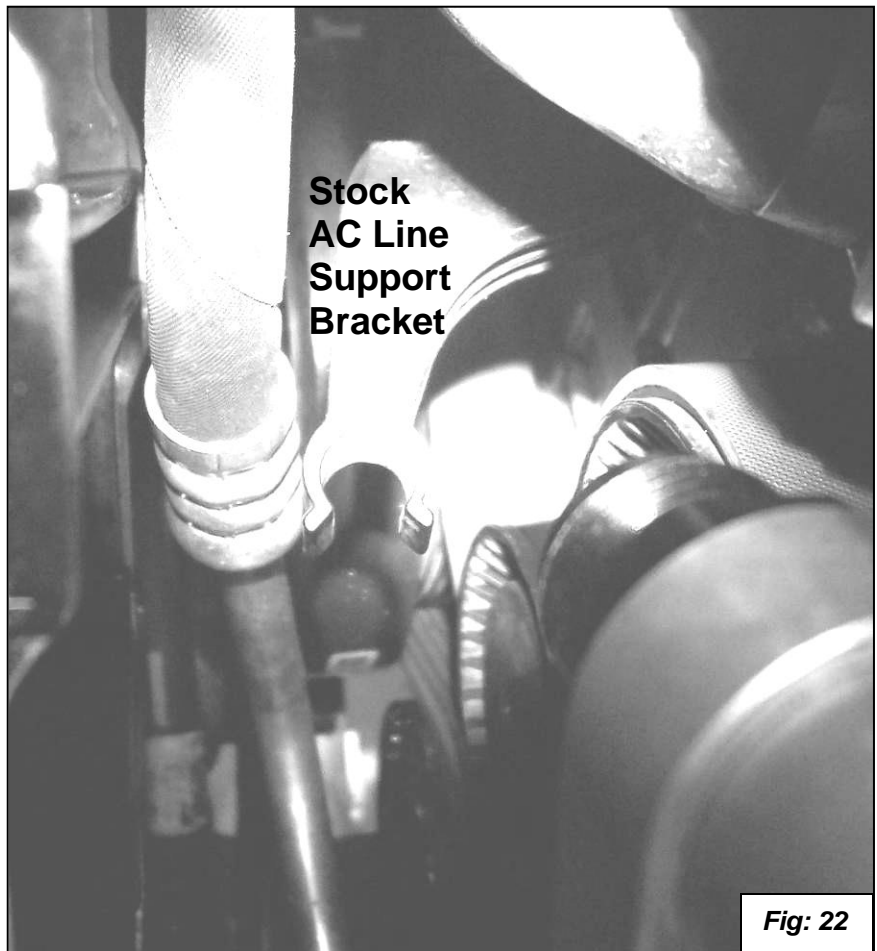

Fig: 22
24. Replace the AC Line Support Bracket. To make room for the new Oil Cooler Hoses you will need to remove the stock plastic AC line support bracket from the front of engine. This bracket will be replaced by a new steel AC Line Support Bracket that relocates the AC line down and slightly forward. Pull the AC line out of the C-shaped tip of the stock support bkt. Remove bracket and save the single mounting bolt for the new support bracket. See **figure 22**.